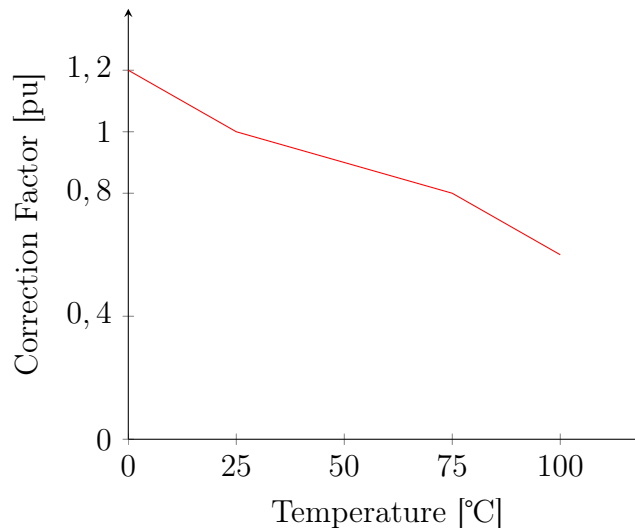

Figure 2: Correction factor vs Temperature
- *P-TCurve*: Correction factor curve of the PV array per unit of *Pmpp* as a function of the PV array temperature. As can be seen in Figure 2, the correction factor should be 1.0 for the temperature at which *Pmpp* is defined, in this case 25 °C. The PV array generates its rated max power, *Pmpp*, operating at that temperature, 25 °C, combined with  $1 \text{ kW/m}^2$  irradiance. To define this curve in OpenDSS, the user must use the XYCurve object, as shown below.